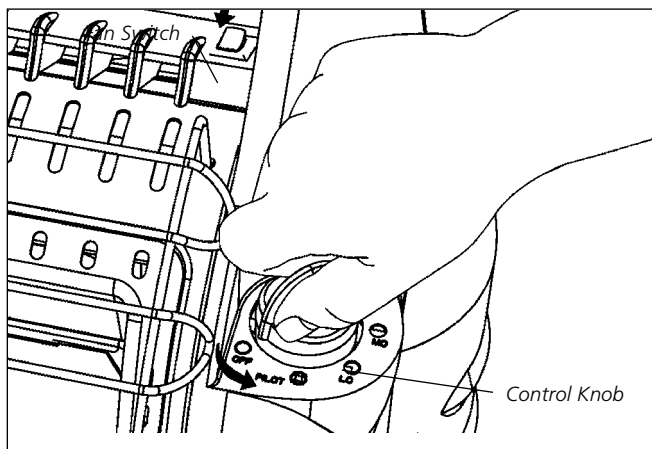

Figure 6
- For added heat circulation turn red fan switch to on. The fan switch is located just left of control knob side handle support. See Figure 6.